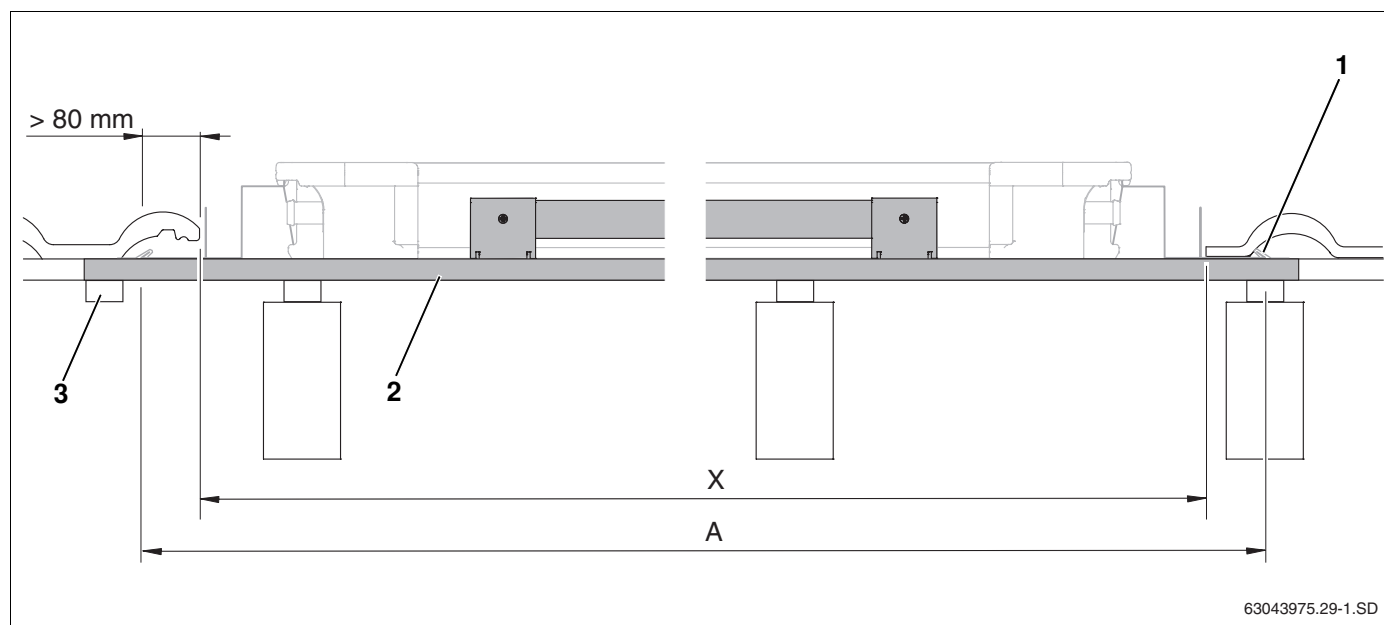
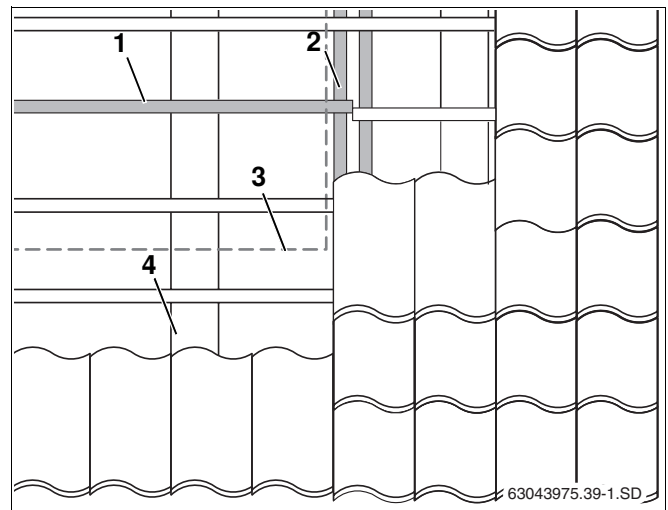

Fig. 9 Length of additional roof battens (here: first lower roof batten with anti-slip protection)
Fig. 13 Moving roof battens around the collector array area
The minimum length of additional roof battens (Fig. 9, **Item 2**) is the width of the collector array (Table 5, Page 15, dim. A) plus approx. 10 cm for the side clips (Fig. 9, **Item 1**).
- Fasten batten butt joints to the joist or ensure that they are adequately secure, e.g. by fastening them to the already existing roof battens (Fig. 9, **Item 3** and Fig. 13, **Item 2**).
If an additional roof batten (Fig. 13, **Item 1**) has to be fitted near a pre-existing one, the pre-existing one must be moved near to the collector array (Fig. 13, **Item 3**) and adequately fastened (Fig. 13, **Item 2**).